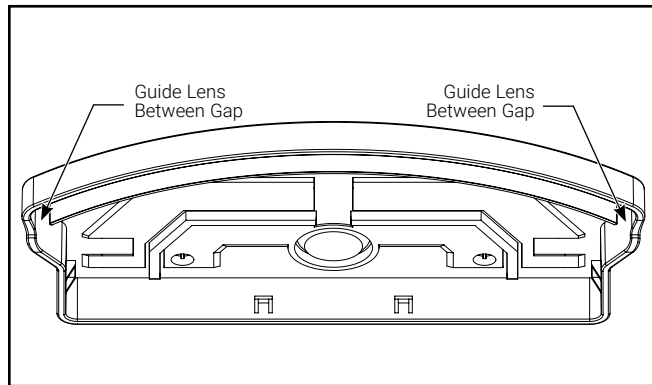
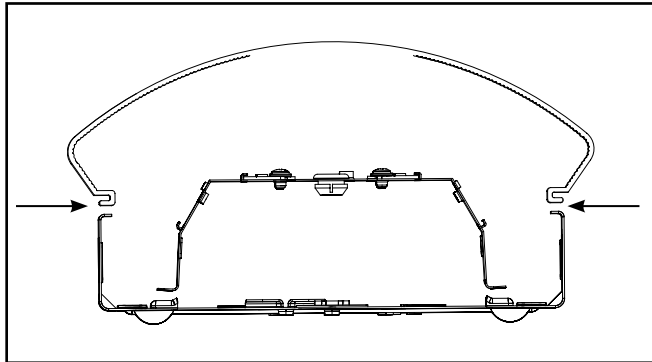

Figure 6.
Figure 7.
7. Install the lens by starting at one end, guide the sides of the lens between the light seal and the outer sides of the end cap (Figure 6). Squeeze lens with both hands so lens groove catches the lip on the fixture housing (Figure 7). While squeezing lens onto the housing, slide the lens towards end of fixture and push lens under the tab on the end cap. After lens is fully seated in the end cap, start pushing the lens toward the housing. After the lens is attached to the housing, move the lens side to side to make sure it is centered in between the tabs on the end caps. Slightly pull down on the lens to make sure it is completely seated.